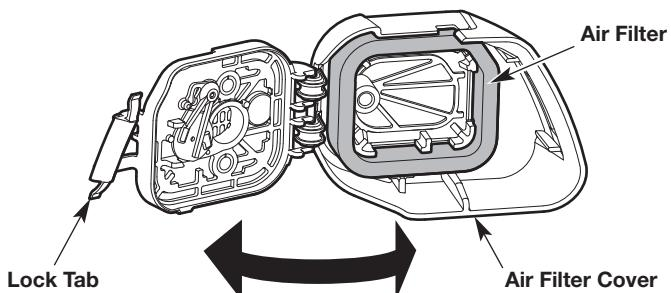

Fig. 11
- Open the air filter cover: press in the lock tab and swing the air filter cover to the right (Fig. 11).
- Remove the air filter from inside the air filter cover (Fig. 11).
- Reinstall the air filter inside the air filter cover (Fig. 11).
- Close the air filter cover: swing the air filter cover to the left and press it closed until the lock tab snaps into place (Fig. 11).